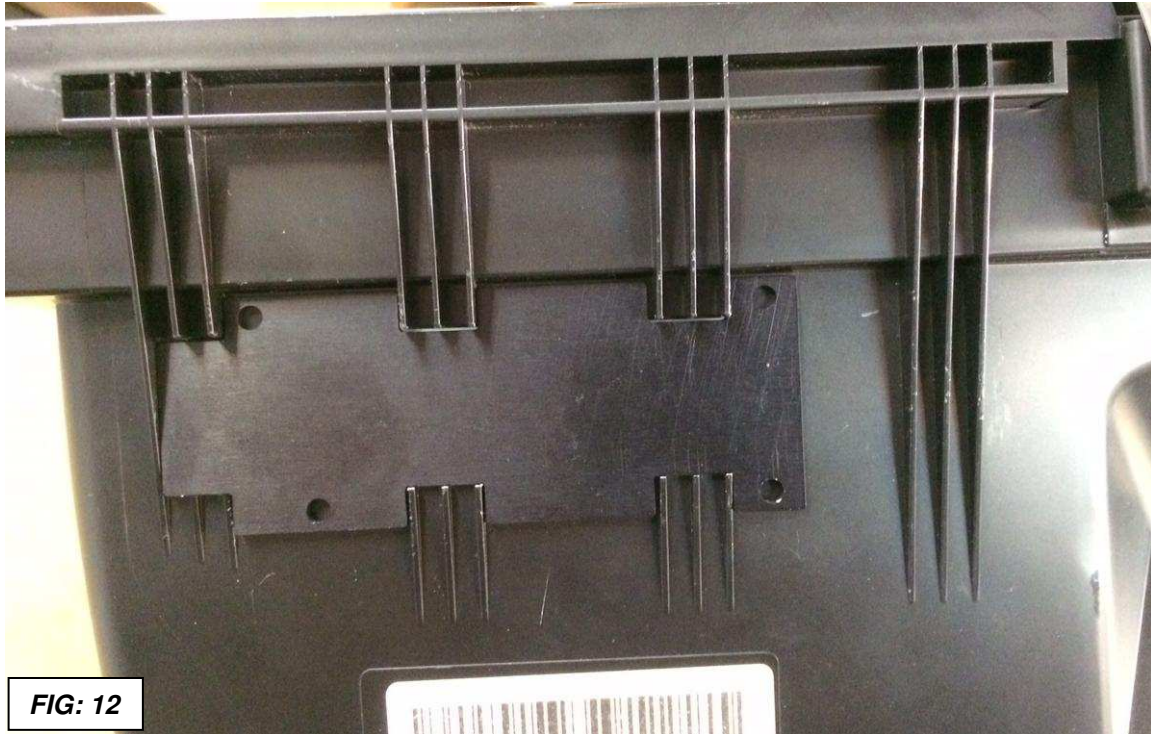

**Fig: 9**
11. Check your lower airbox to see if your car is equipped with a snow valve (part of BMW's "Winter Package"). See Figure 9. If you have the snow valve, remove and use the associated parts in the hardware kit shown in Figure 12. **\*Please note that removal of the snow valve may affect engine performance in extreme winter conditions.**